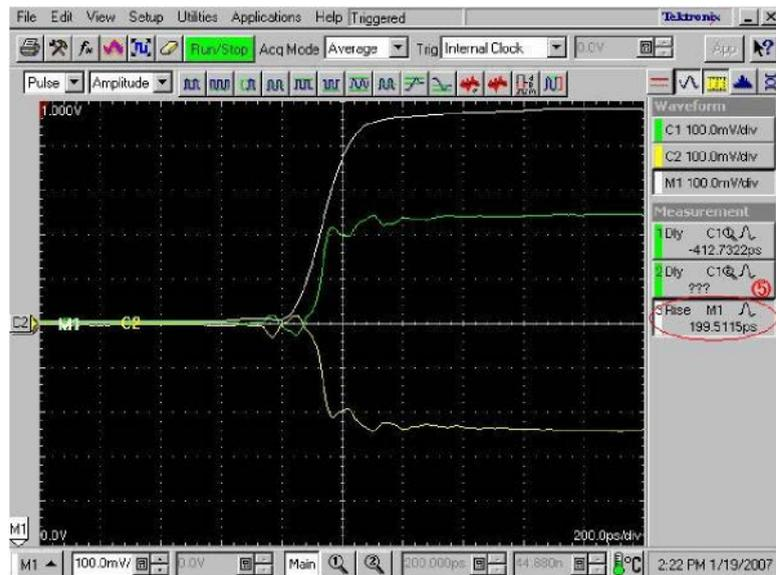
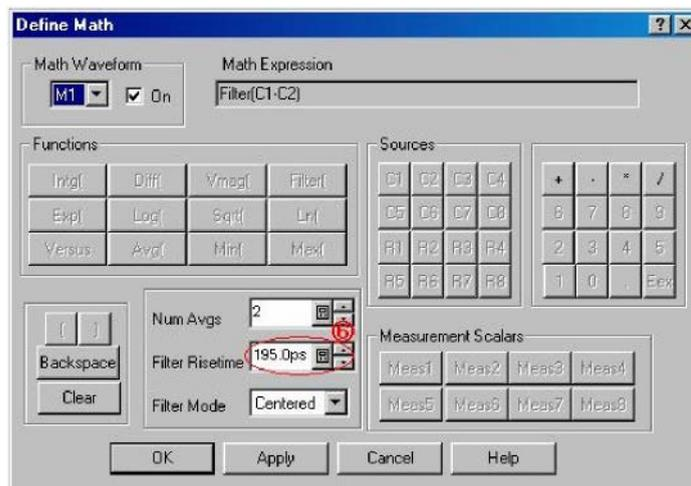

Figure 5: Adjusting the rise time
Figure 6: Changing the Filter Risetime value
- For **Differential mode**, adjust the rise time so that the reading of ⑤ in Figure 5 is 200 ps by changing the **Filter Risetime** value (see ⑥ in Figure 6). If you cannot adjust the value to 200 ps exactly, set it to the nearest value below 200 ps.
If a cable length ≤ 300 mm, adjust the rise time so that the reading of ⑤ in Figure 5 to 50 ps by changing the **Filter Risetime** value (see ⑥ in Figure 6). If you cannot adjust the value to 50 ps exactly, set it to the nearest value below 50 ps in addition to 200ps.
8. For **Common mode**, adjust the rise time so that the reading of ⑤ in Figure 5 is 600 ps by changing the **Filter Risetime** value (see ⑥ in Figure 6). If you cannot adjust the value to 600 ps exactly, set it to the nearest value below 600 ps.
If a cable length ≤ 600 mm, adjust the rise time so that the reading of ⑤ in Figure 5 to 50 ps by changing the **Filter Risetime** value (see ⑥ in Figure 6). If you cannot adjust the value to 50 ps exactly, set it to the nearest value below 50 ps in addition to 600ps